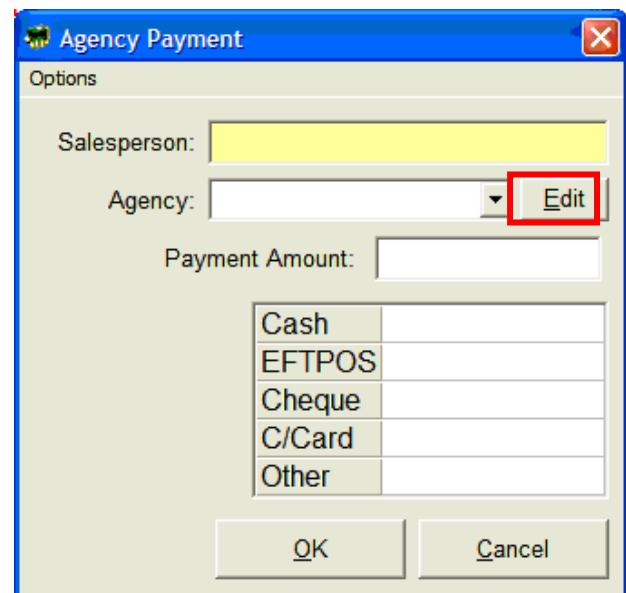

Figure 53
1. To rename an Agency, select the 'Edit' button (as shown in Figure 53).